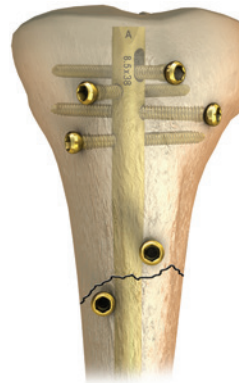

Figure 47
2. Obtain both A/P and lateral radiographic images to confirm accurate screw placement (Figures 47 and 48).
Note: If cross-threading occurs, rotate the Nail Cap counterclockwise until its threads line up with those of the nail. Proceed with the Nail Cap insertion until it is tight. Accurate screw placement (Figures 47 and 48).